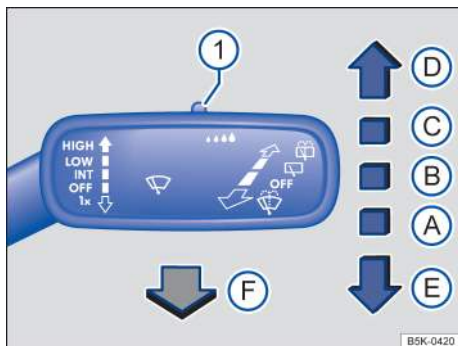

Fig. 80 Operating the front windshield wipers.
→ fig. 80, → ①:
- ① **OFF** Wiper switched off.
- ② **INT** Intermittent wiping for the front windshield. Rain sensor active (if equipped).
- ③ **LOW** Slow wiper speed.
- ④ **HIGH** Fast wiper speed.
- ⑤ **1x** One-tap wiping – brief wiping. Hold the lever down longer to wipe more often.
- ⑥ **☞** Pull the lever toward the steering wheel to activate the front windshield washers, then release.
- ⑦ **...** Switch for adjusting the windshield wiper interval settings (vehicles without a rain sensor) or